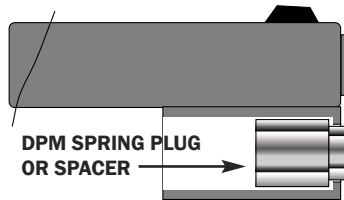

Fig. 1
2. Before you install the DPM Rod Insert the **DPM SPRING PLUG** or the **SPACER** in the slide (**Fig.1**)